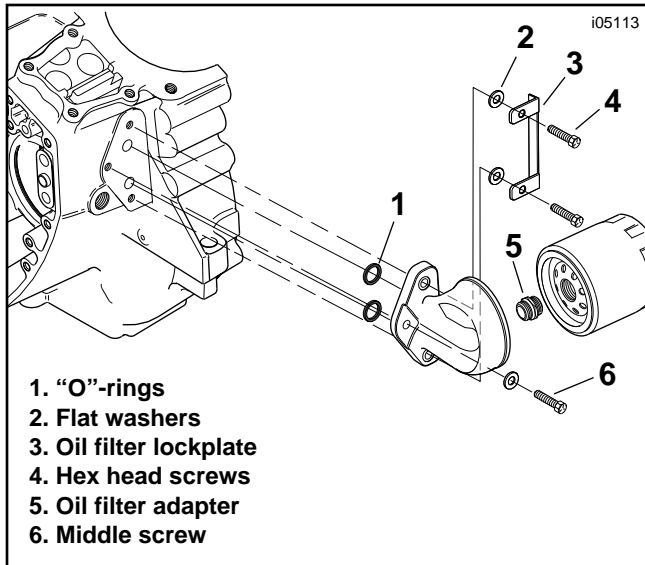

Figure 2. Remove the Existing Oil Filter Mount
8. See Figure 2. Bend the corners of the oil filter lockplate (3) away from the heads of the top and bottom oil filter mount attaching screws (4). Remove and discard the top and bottom screws, lockplate and flat washers (2).
9. Remove the middle screw (6) and flat washer to free the oil filter mount from the crankcase. Discard the hardware and the oil filter mount.
The new oil filter mount appears slightly different from that shown in Figure 2, but the mounting components are identical.
12. Refer to Figure 2 and the Service Parts list. Apply LOCTITE® 243 (blue, Part Number HD-99642-97, not included in the kit) to the threads of the oil filter adapter. Install the adapter to the oil filter mount and tighten to 12-16 ft-lbs (16-22 Nm).